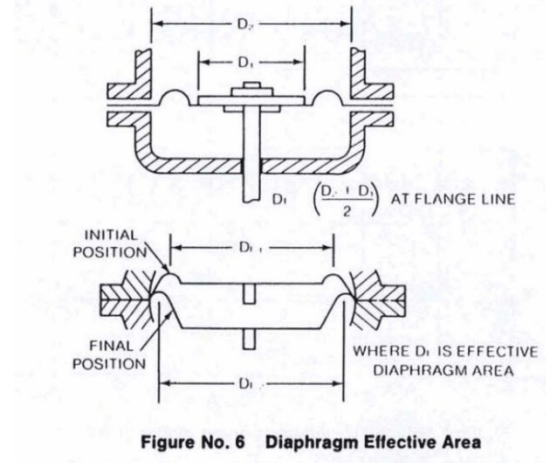

Figure 16
Figure 16 shows the typical changes that occur in the "effective diameter*" of the diaphragm with its position.
Now that you can see this typical change in area, it is easy to see that the force equation for the upward force opposing the weight will cause a variation in the diaphragm area (A). Therefore to maintain a constant diaphragm force there needs to be a varying pressure. At the highest position of travel, or where the valve is nearly closed, the diaphragm area is small, therefore the pressure would be greater as compared to the lowest position. If we were to reference numerical values, assume the weight to be ten pounds and the initial diaphragm area, (at position D_e , in Figure 16 above to be 10 square inches; the pressure required for a balance of forces is: